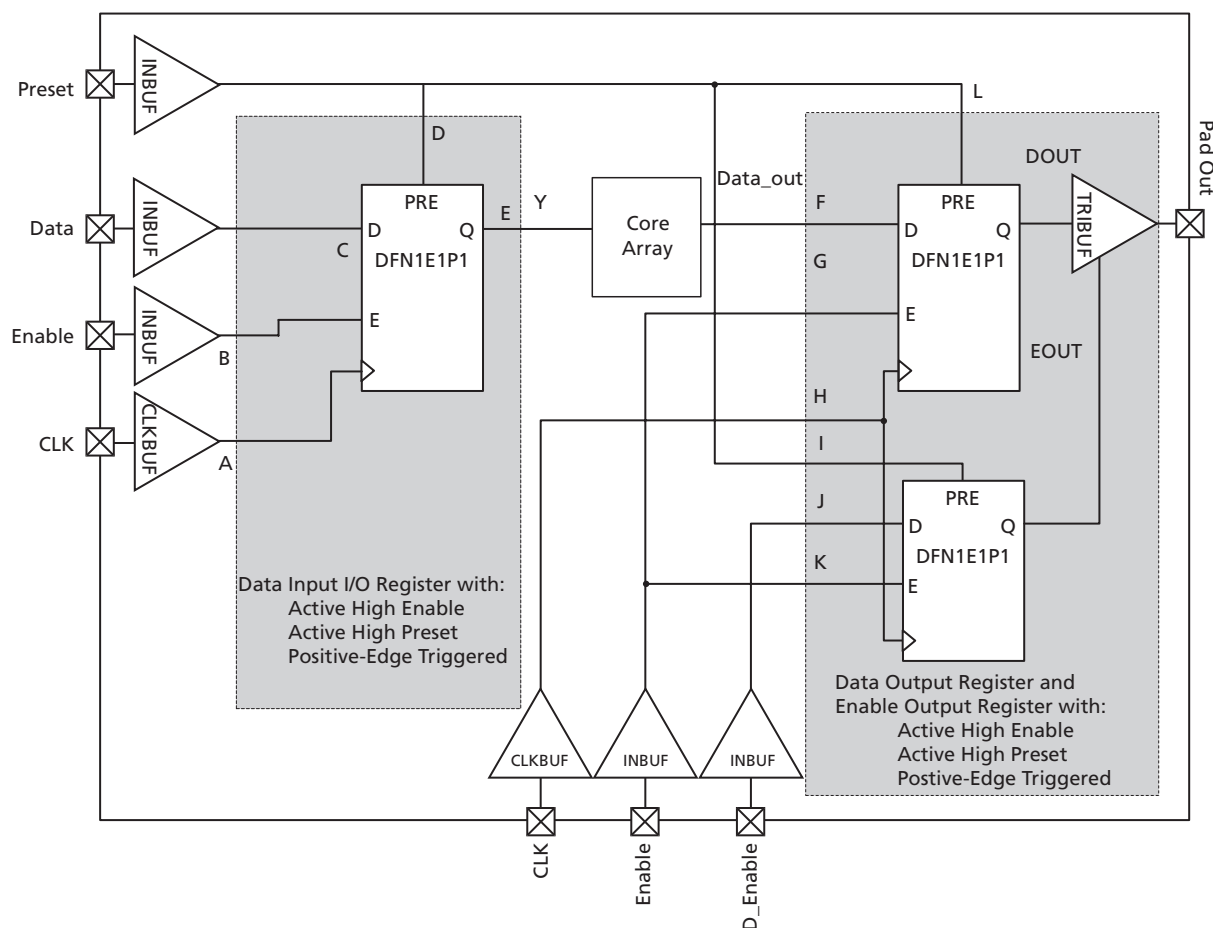

Figure 2-16 • Timing Model of Registered I/O Buffers with Synchronous Enable and Asynchronous Preset
* See Figure 2-16 on page 2-68 for more information.